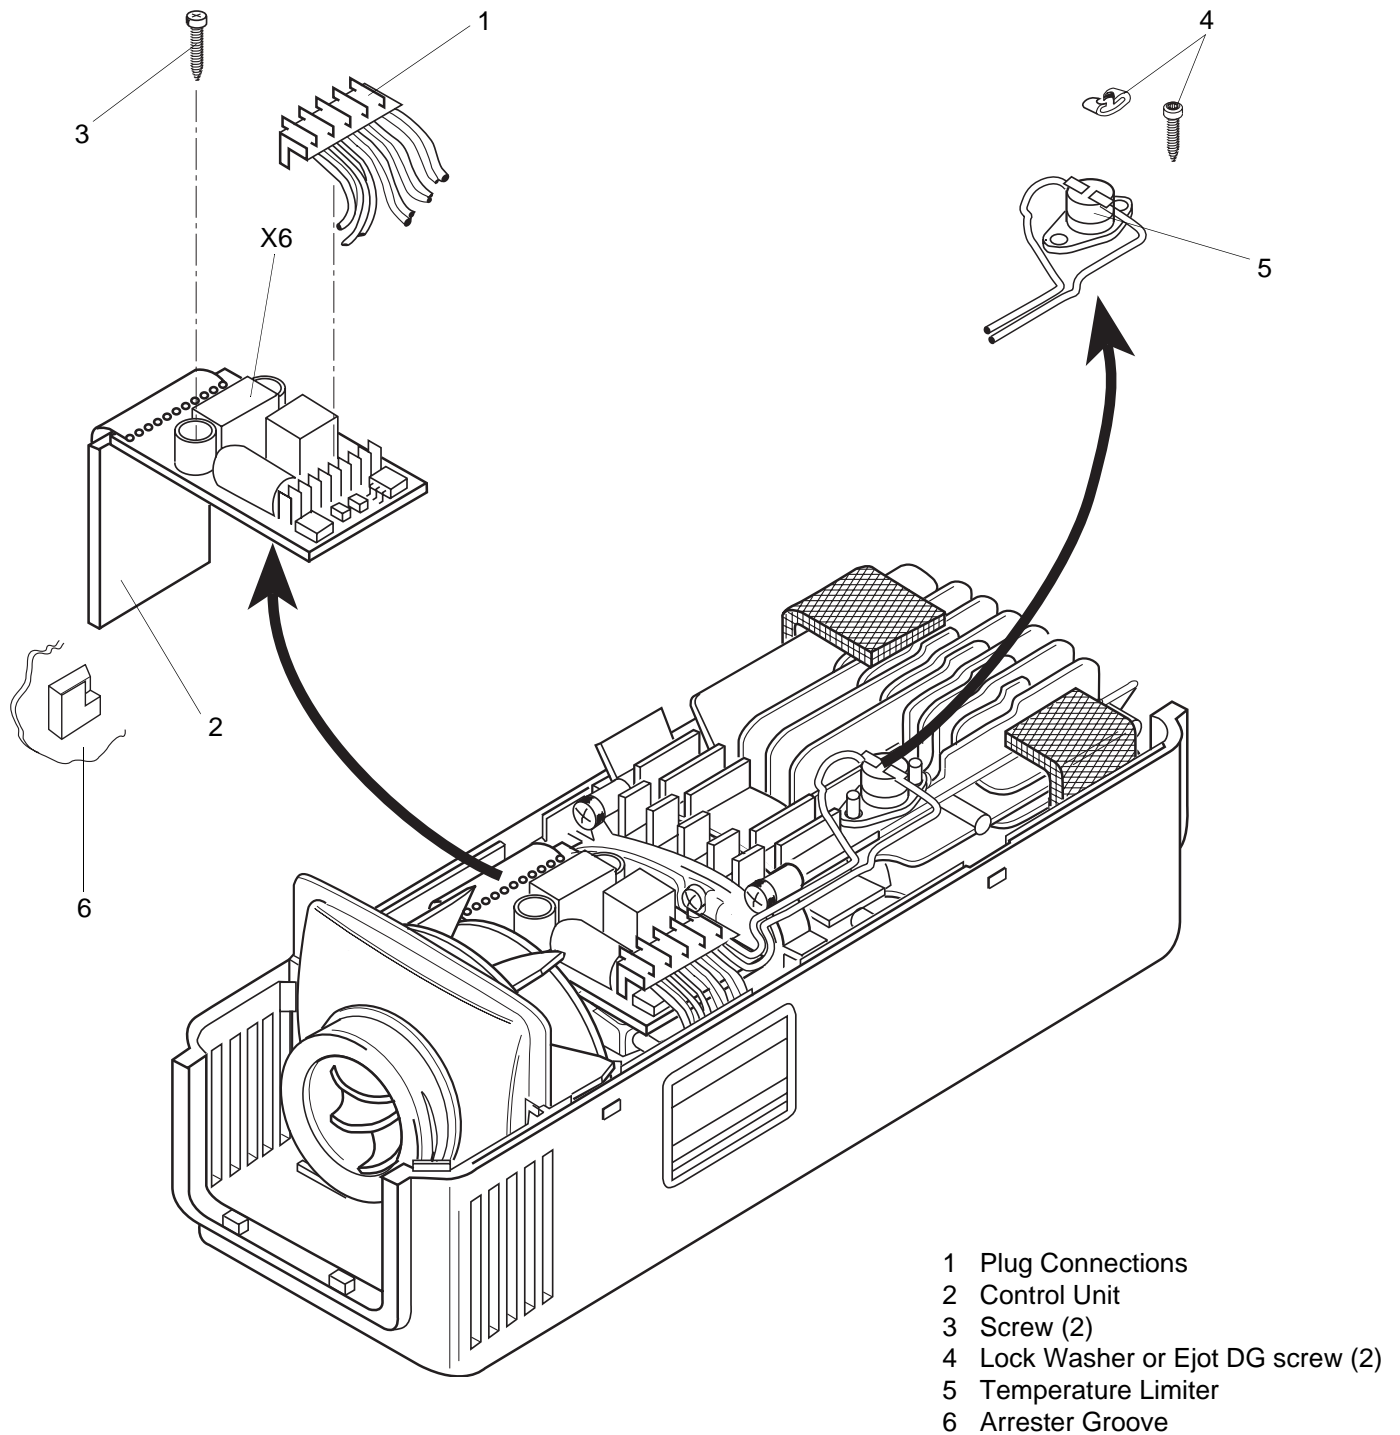

Fig. 815 Replacement of Control Unit and Temperature Limiter (Air Top 2000 without Diagnosis)
5. Disconnect plugged connections (1, Fig. 815 or Fig. 816) of terminal.
6. Remove screws (3) and remove control unit (2).
1. Locate control unit (2, Fig. 815) in installation position and secure with screws (3). Ensure control unit engages in arrester groove (6). Torque screws to 0.7 ± 0.07 Nm.
6. Remove lock washers or Ejoyt DG screws (4, Fig. 815 or Fig. 816).
7. Remove temperature limiter (5).
1. Locate temperature limiter (5, Fig. 815 or Fig. 816) in installation position and secure with lock washers or Ejoyt DG screws (4). Ensure that temperature limiter rests properly on heat exchanger.